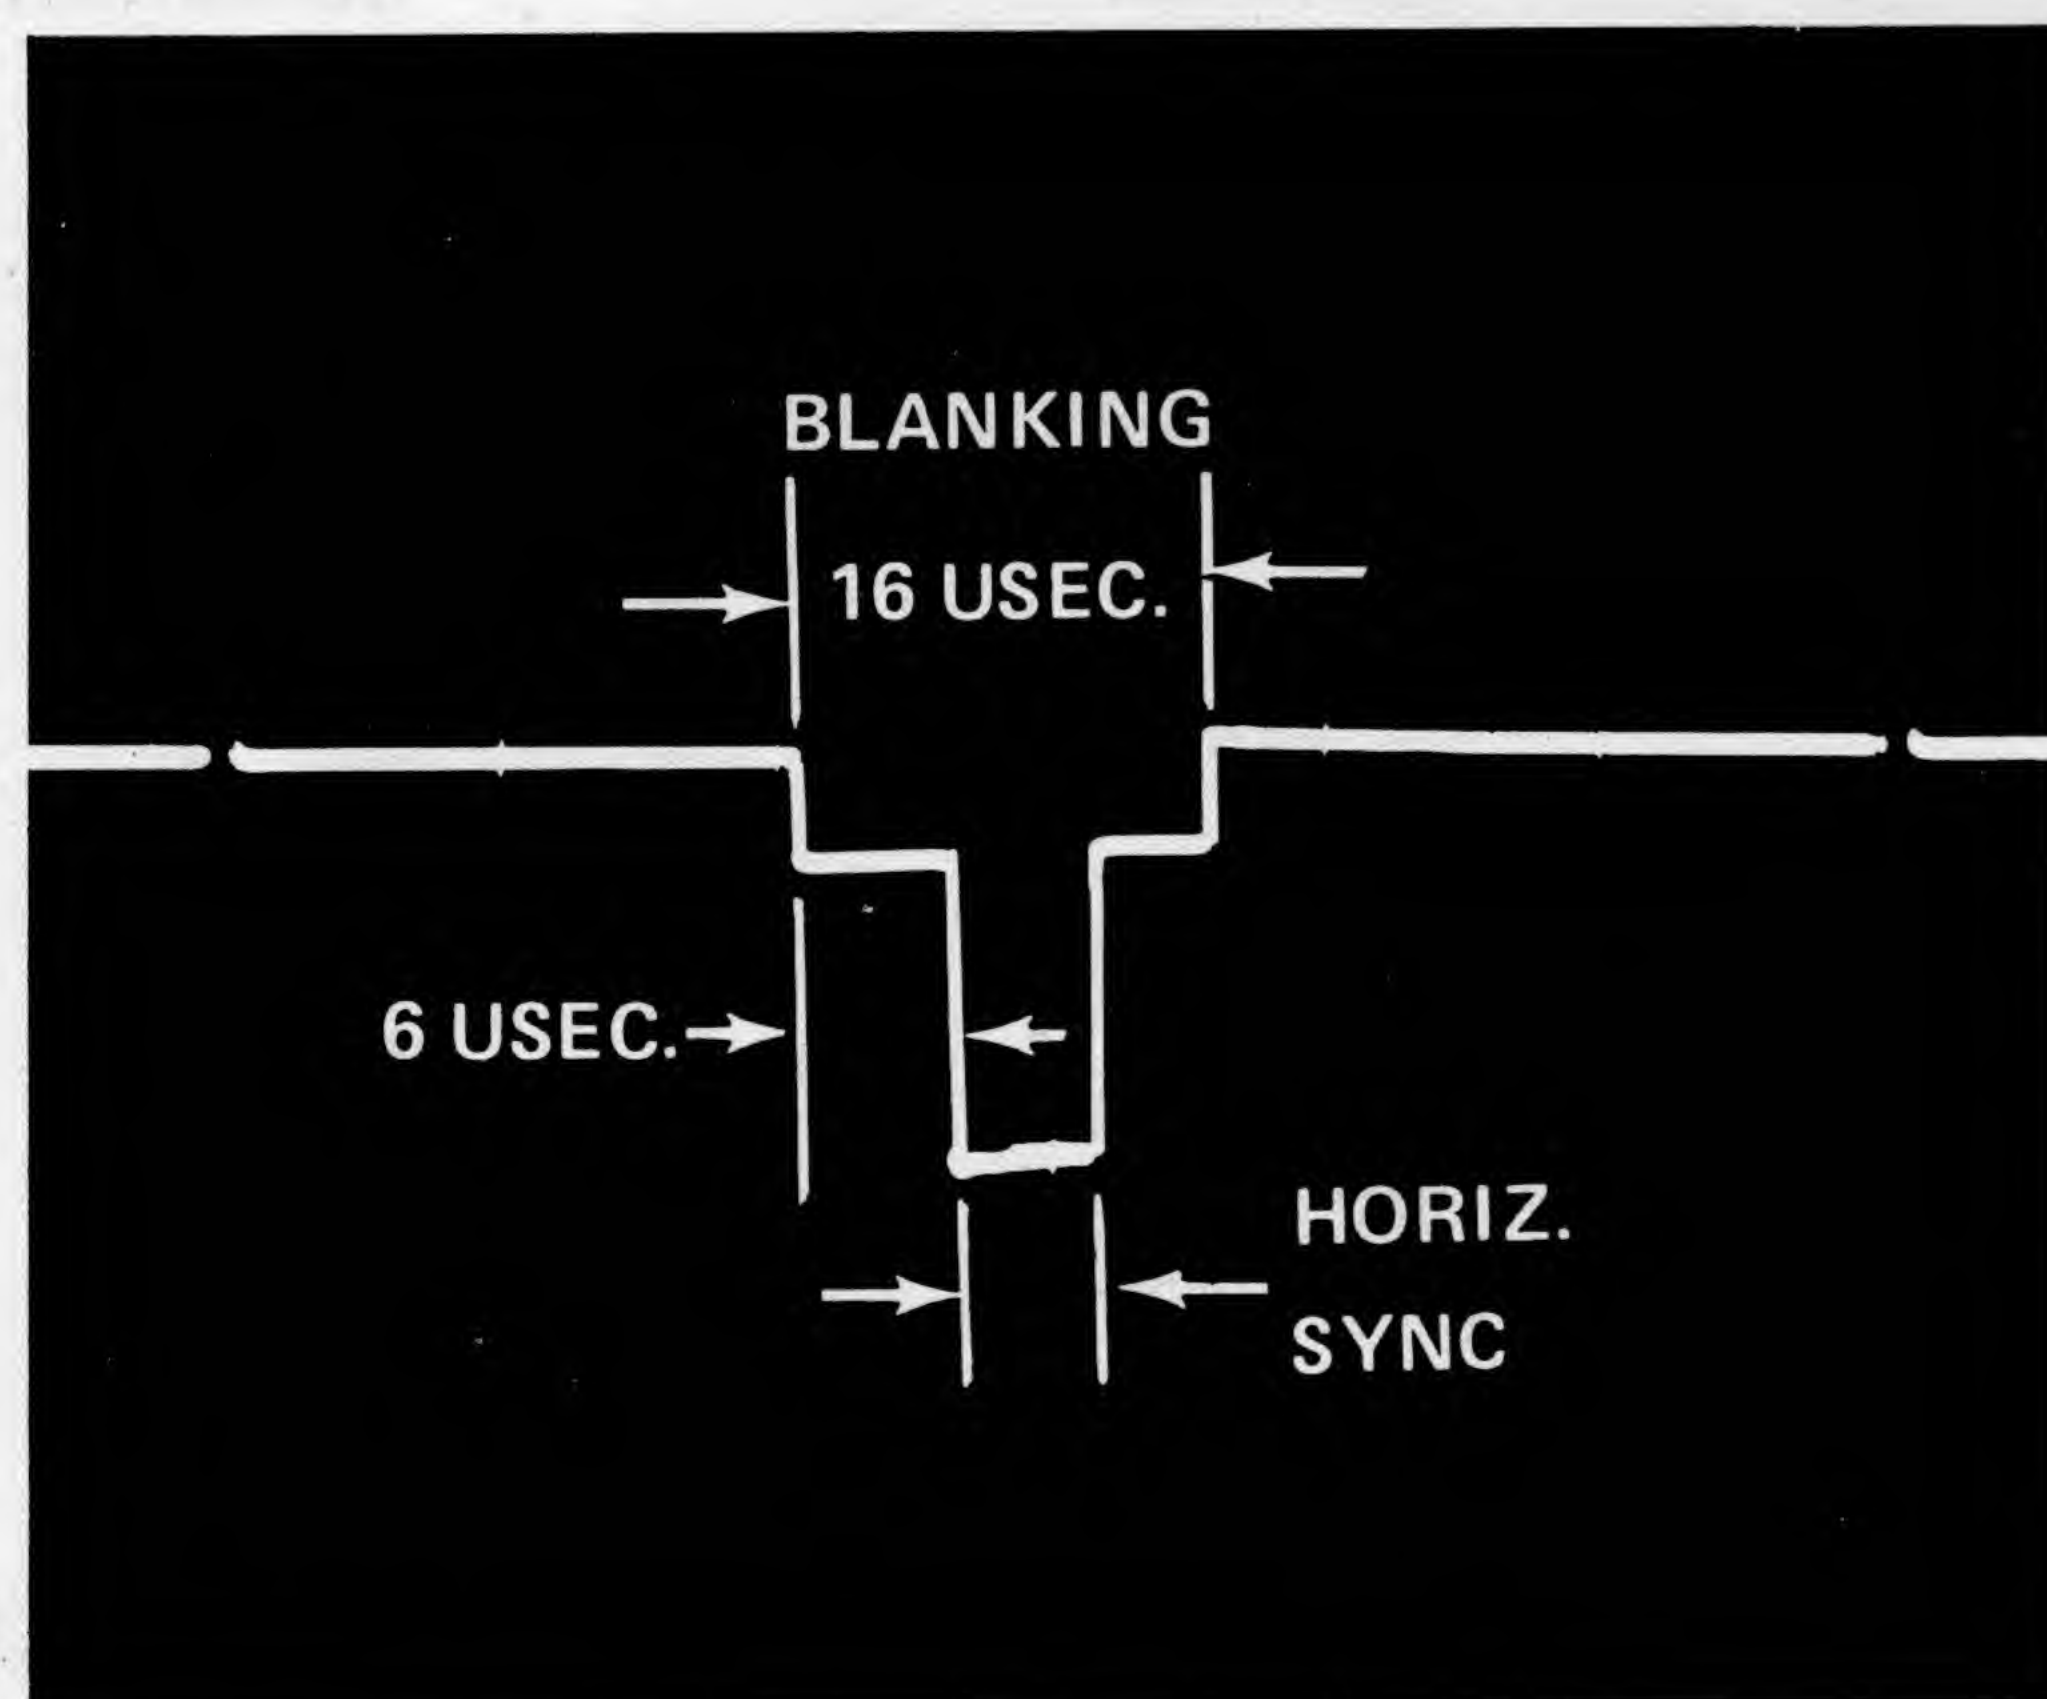

FIGURE 1
3. Adjust the Blanking Width Control (R70) for 16 usec. width (see Figure 1).
4. Adjust the Blanking Centering Control (R71) for 6 usec before horizontal sync (see Figure 1).